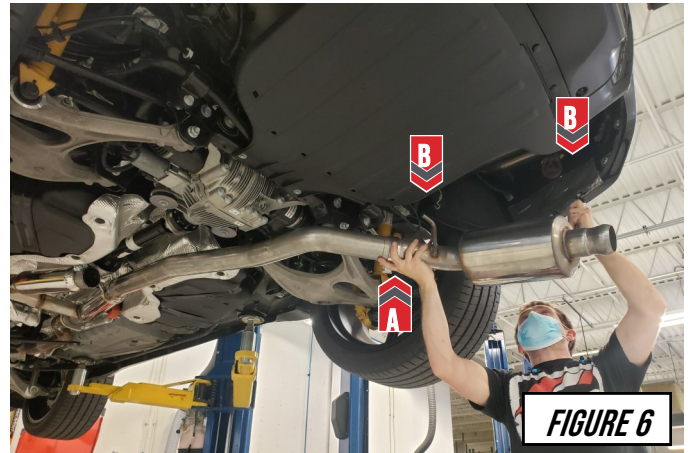

FIGURE 6
Gather the AWE **PS** mid pipe and **PS** rear section. The axle tube has no hangers, for ease install both tube sections, as shown in **Figure 6**, with the supplied clamp at (A) and the OEM hangers at (B).